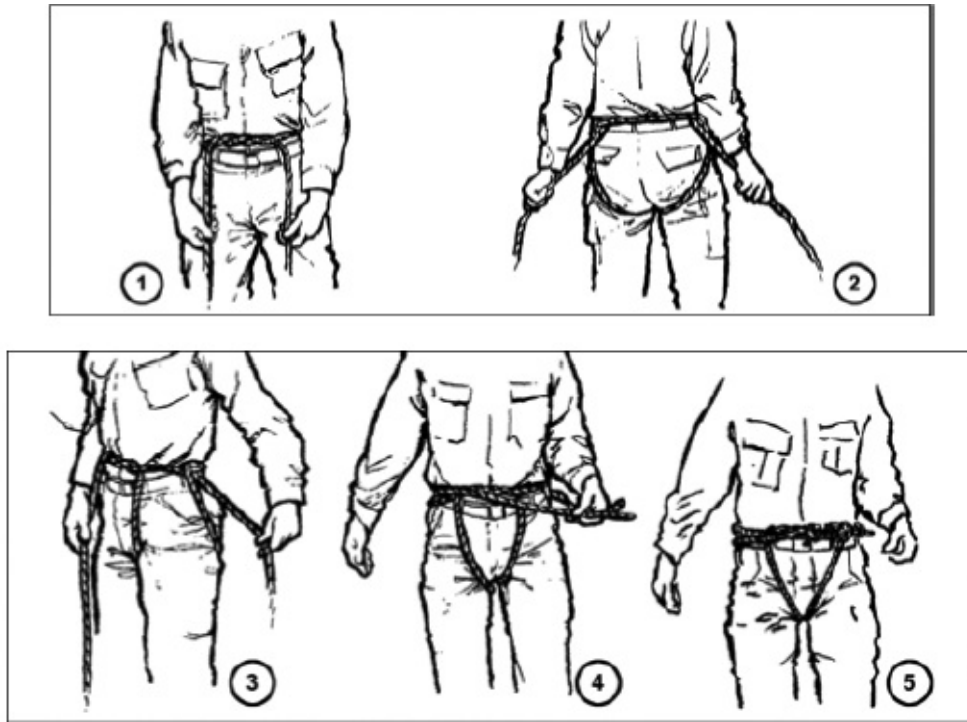

Figure 5-9. Rappel seat
- e. **Rappel Seat.** The rappel seat (Figure 5-9) is a rope harness used in rappelling and climbing. It can be tied for use with the left or right hand. Leg straps do not cross, and are centered on buttocks and tight. Leg straps form locking half hitches on rope around waist. A square knot is tied on the right hip and finished with two overhand knots. Tails must be even, no longer than 6 inches. A carabiner is inserted around all ropes, with the gate opening up and away. The carabiner must not contact the square or overhand knot. The rappel seat must be tight enough to prevent a fist from fitting between the rappeler's body and the harness.